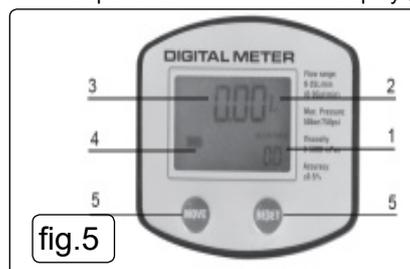

fig.5
- 5.4.1. User Buttons (fig.5)
Area 2 in fig.5 shows units